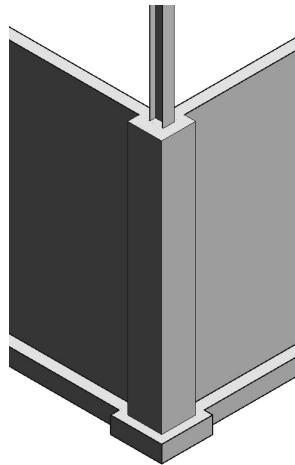

Figure 7–67
2. Which command do you use to insert a pier or a pilaster such as those shown in Figure 7–67?